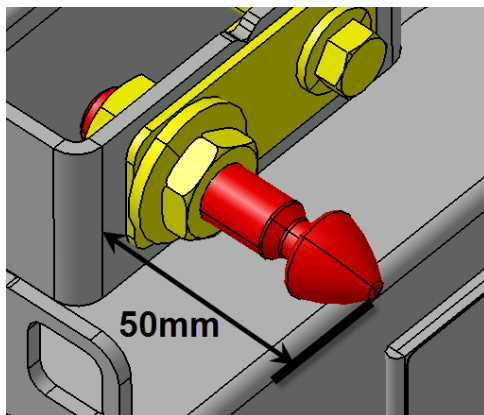

FIGURE 59
11. Before adjusting the pin, make sure that it doesn't exceed more than 2" (50mm) at the first closing of the door (FIGURE 59). Damage to the door can result if this condition is not respected.